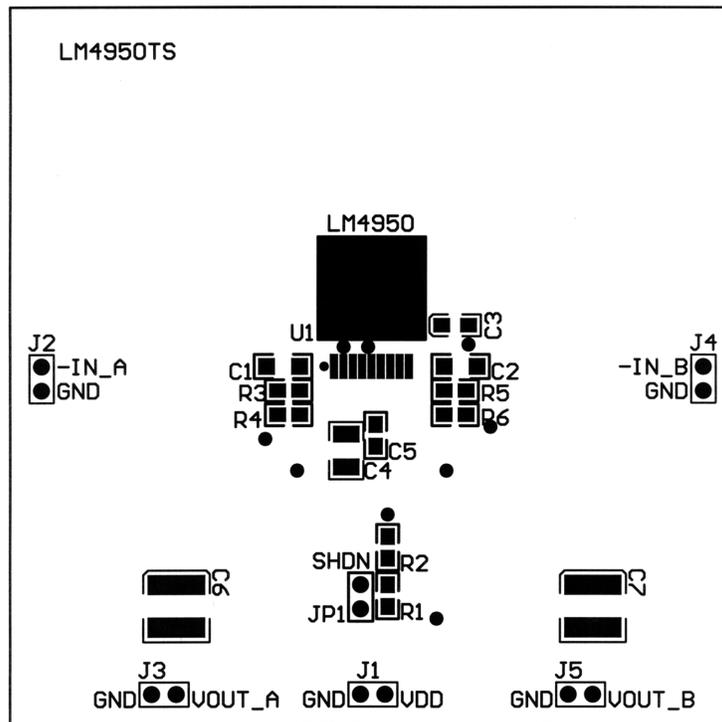
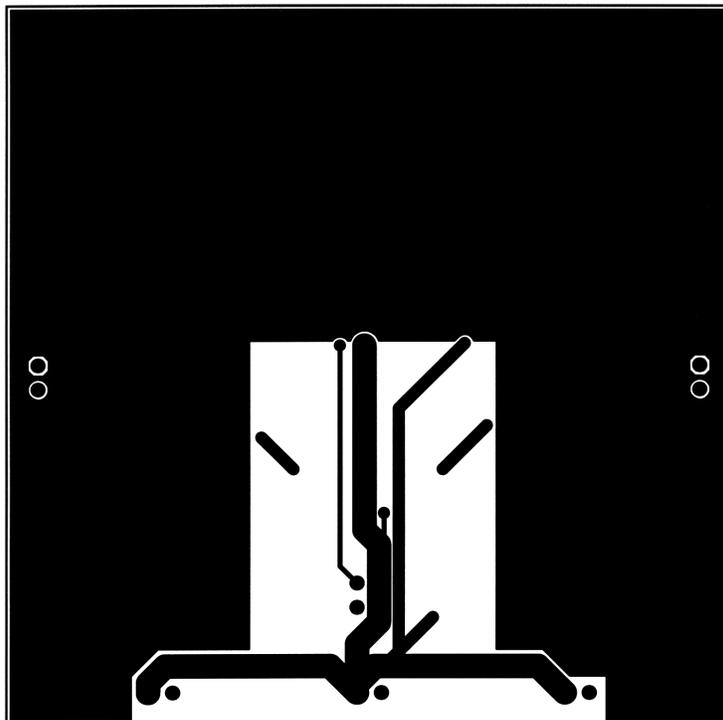

Figure 67. Recommended KTW SE PCB Layout:
Figure 69. Recommended KTW SE PCB Layout:
Figure 67 through Figure 69 show the recommended two-layer PC board layout that is optimized for the DDPACK-packaged, SE-configured LM4950 and associated external components. Figure 70 through Figure 72 show the recommended two-layer PC board layout that is optimized for the DDPACK-packaged, BTL-configured LM4950 and associated external components. These circuits are designed for use with an external 12V supply and 4Ω(min)(SE) or 8Ω(min)(BTL) speakers.